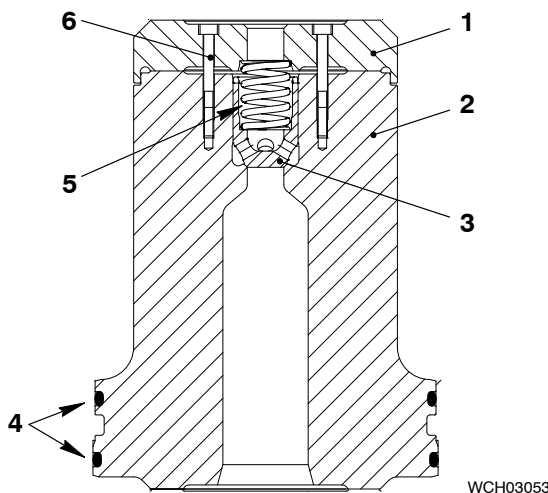

Fig. 12
- 1) Remove the two screws (6, Fig. 12).
- 2) Remove the intermediate piece (1) and the spring (5).
- 3) Remove the valve body (3) from the valve block (2).
- 4) Remove the two O-rings (4).